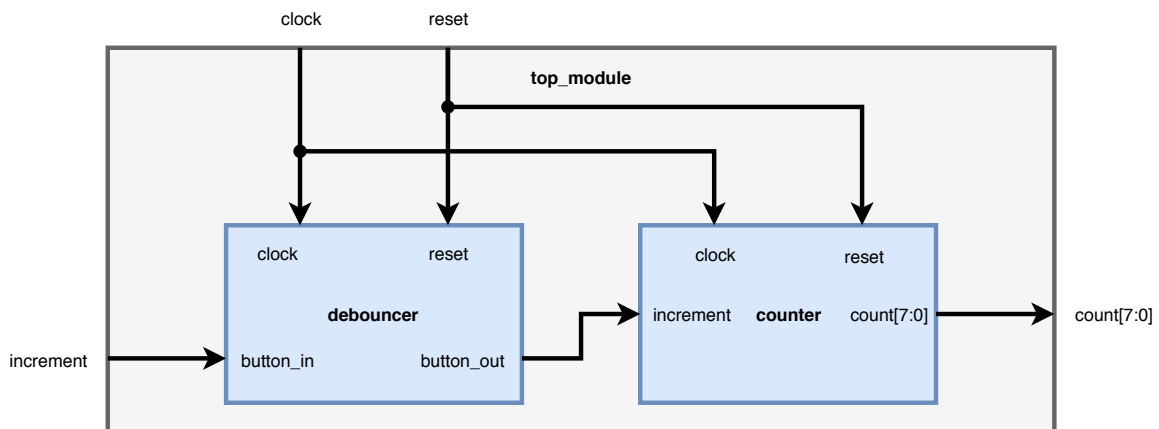

Figure 2: The overview of top module.
3. top_part1 - In the top module instantiate the debouncer and counter modules. Connect the modules as shown in Figure 2. Demonstrate the working top module on the FPGA to the TAs. Refer to Pre-Lab B and the Vivado tutorial for directions on implementing the design on the FPGA.